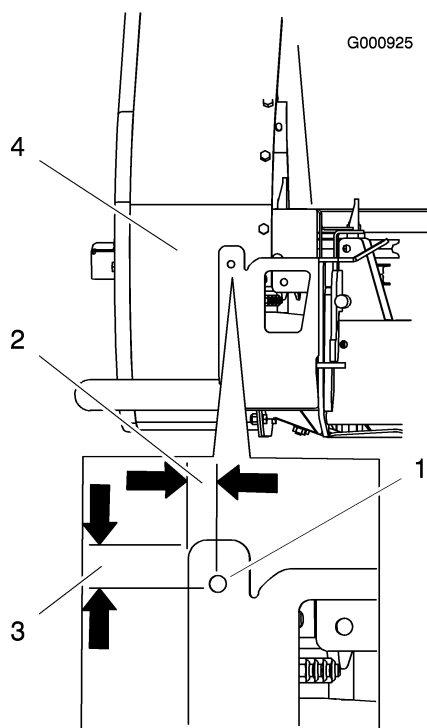

Figure 5
1. Locate, mark and center punch the hole location shown in (Figure 5).
2. Drill a 11/32 inch hole into the latch guard (Figure 5).